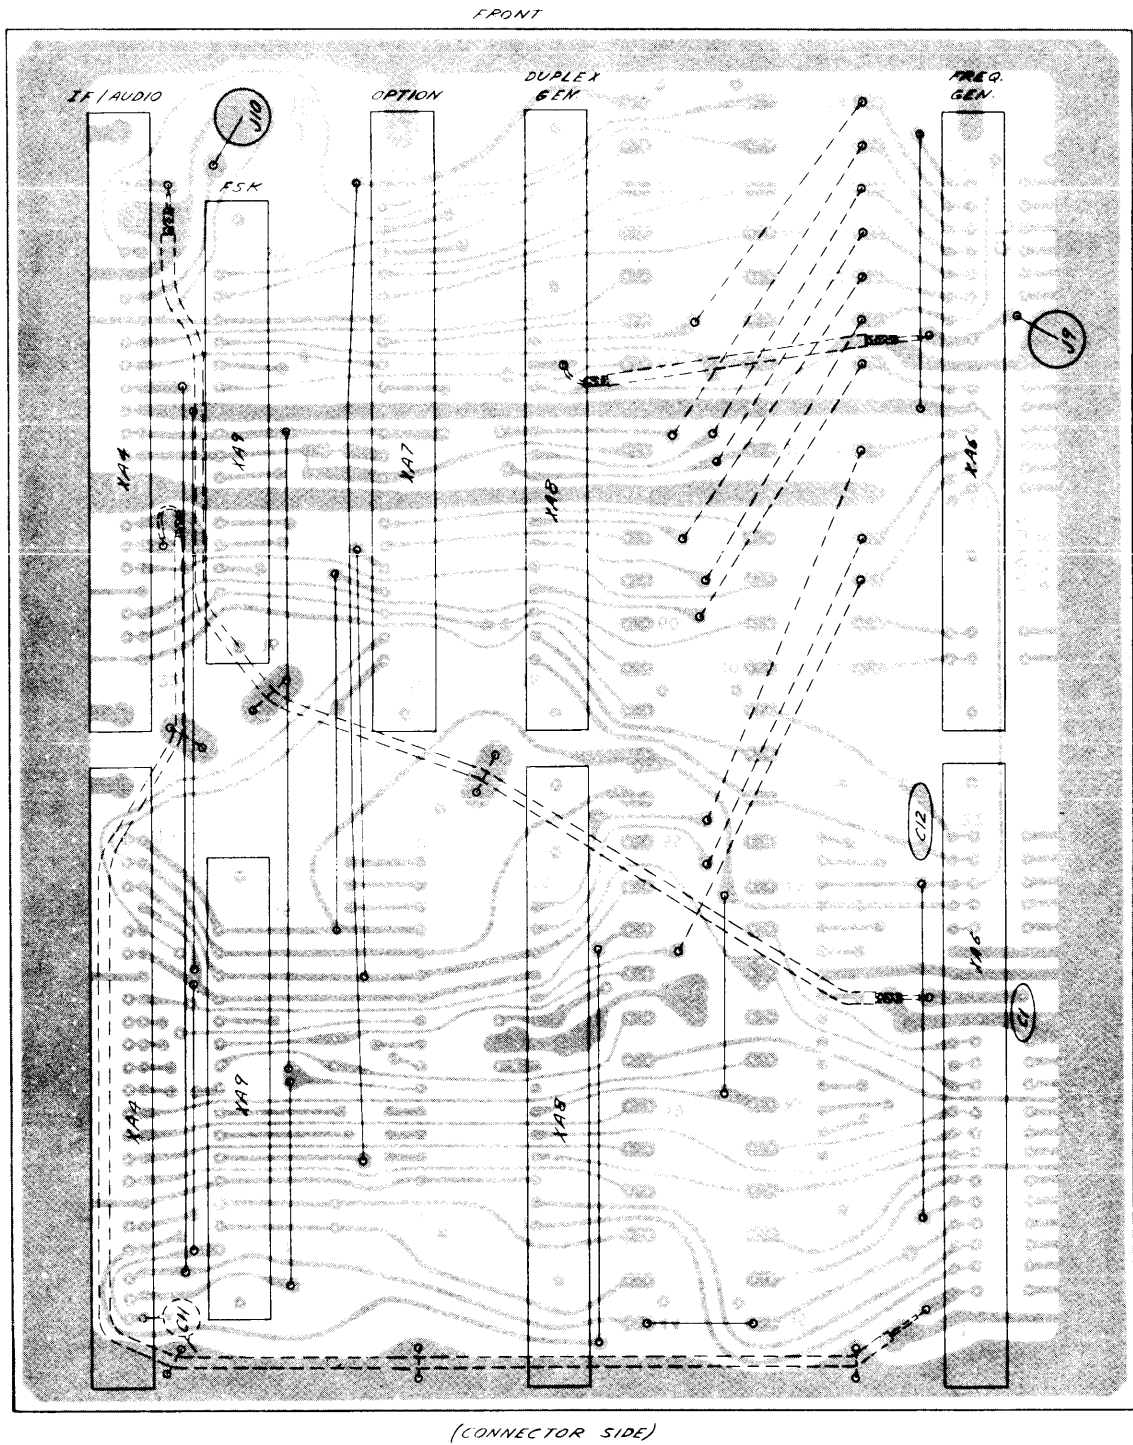

Figure 4-3C-2. Signal Distribution Board Duplex
- 4.3.7 Signal Distribution Printed Circuit Board. - The signal distribution board provides all interfaces between modules, front panel and rear panel. The necessary basic plug-in modules on this board are the Frequency Generator (A6) and the IF/Audio (A4) modules. All options with the exception of Remote plug into this board. Reference Figure 4-3A for pin and connector assignment. Figure 4-3C indicates location of connectors for basic and option plug-in modules.